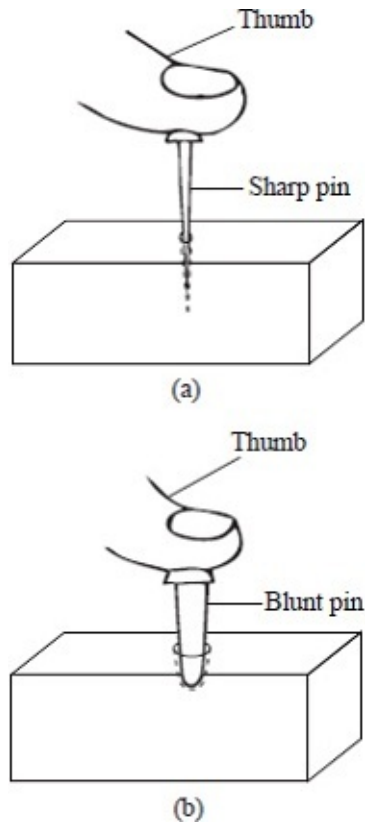

Fig. 4.2: Effect of force on an area
- (ii) It is easier to push a sharp pin through a cardboard than it is to push a blunt one through the same material using the same force, see figure 4.2 (a) and (b).